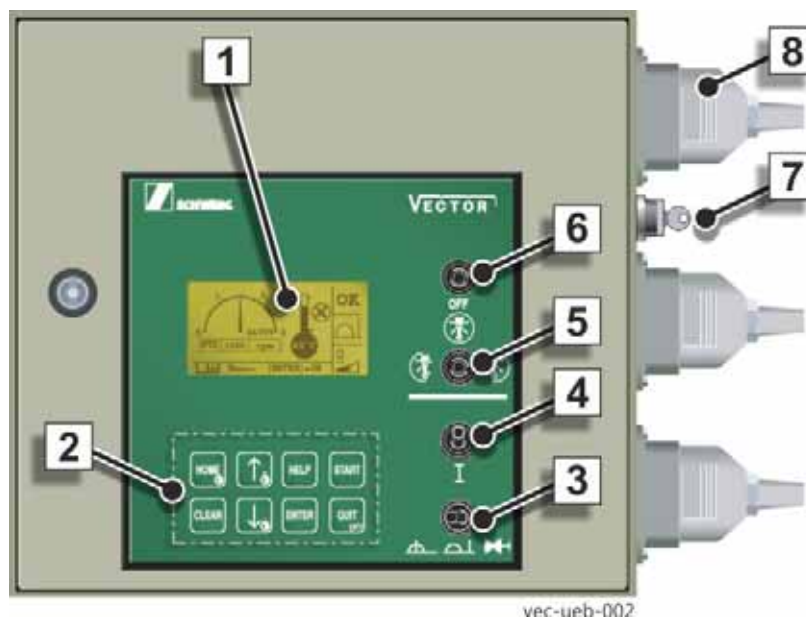

Fig. 160
Operating data and malfunctions that occur while using the local control unit are output on the display of the VECTOR control system (1) (**Fig. 160**).
If not all of the switches are in the neutral position, the VECTOR control display (1) (**Fig. 160**) will output a corresponding error message and it will not be possible to change operating modes.